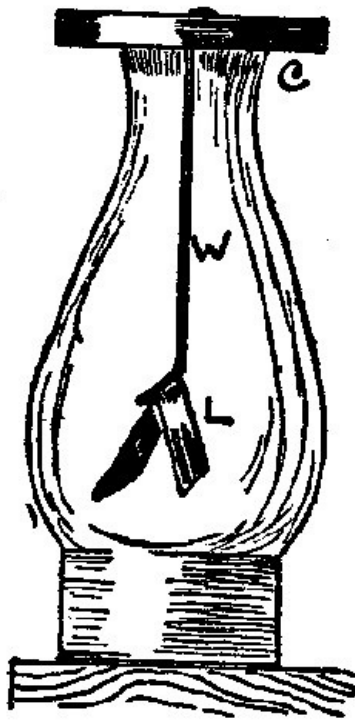

Fig. 113.
**245. Leaf Electroscope.** Fig. 113. This is a very sensitive instrument, and can be used to tell the *kind* of static electricity on a body, as well as the mere presence of it. (See experiments in text-book.) The lamp chimney acts as a support for the leaves, *L*, and it protects them from currents of air. A tin box-cover, *C*, has a small hole punched through its center. Through this is pushed one end of a wire, *W*. This may be a hairpin, straightened. The upper end is bent over at right angles, after passing it through the hole. The lower end is bent as shown. On this horizontal part is fastened the leaf. These should be made of aluminum leaf, or of Dutch metal. The former will stand more rough handling than the latter. Goldleaf is used for very sensitive instruments. It is a little too delicate for unskilled hands.
246. To cut the aluminum leaf, place it between two pieces of paper, then cut paper and all into the desired shape. The piece should be about 3 in. long and 1 in. wide. Fold this across the middle, and stick it to the underside of the wire (Fig. 113). Saliva will make it adhere to the wire, if you have nothing better.